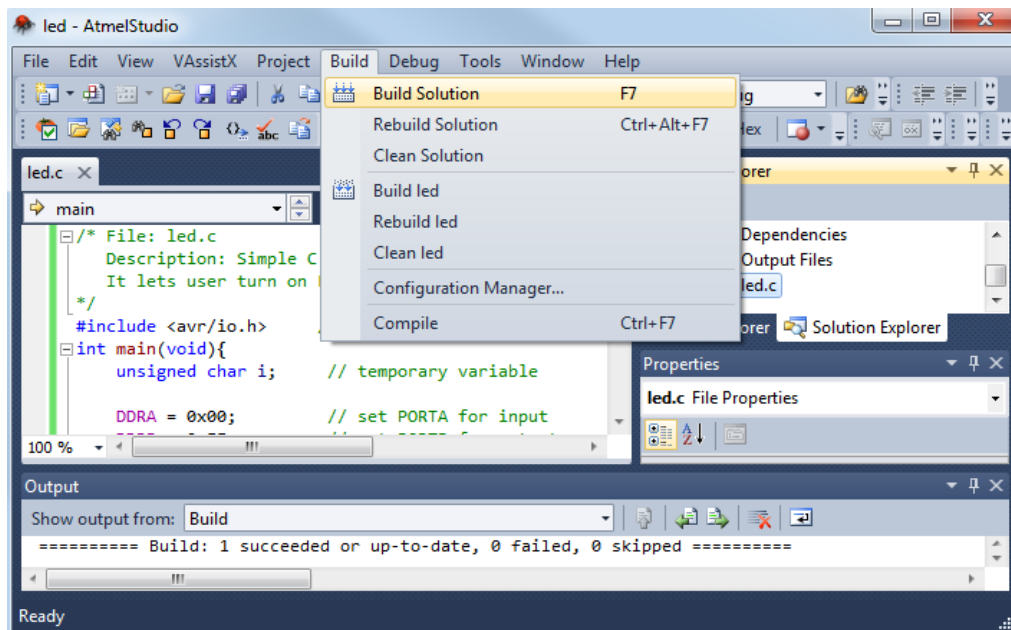

Figure 5: Selecting menu Build | Build Solution to create HEX file.
- If there is no error message, a file called led.hex will be produced (see Figure 5). This file contains the machine code that is ready to be downloaded to the ATmega16 microcontroller. The file is stored in sub-folder 'debug' or 'release' of your project.